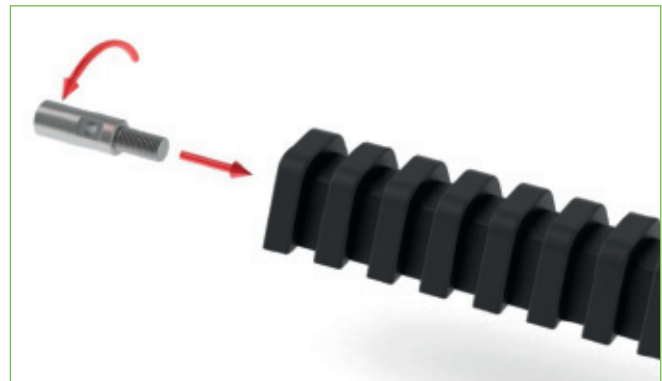
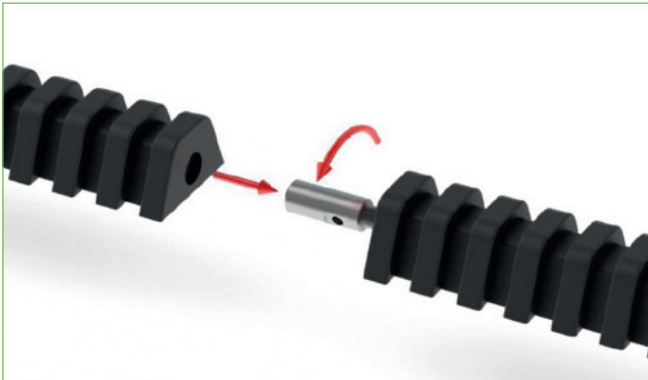
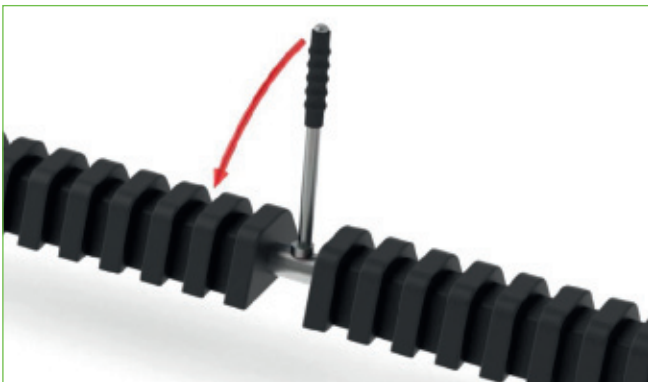

Figure 1.
Figure 2.
Figure 3.
- A correct connection is absolutely vital for the safe functioning of the Pipe Stop system. See Fig. 1, Fig. 2 and Fig. 3 how the Pipe Stop rail segments should be connected to form a complete Pipe Stop rail. After connecting the Pipe Stop rail segments, place a Pipe Stop block over the newly made connection. The block should fit over the gap comfortably. If additional force is needed to place the block on the rail, the connection is incorrect and the connection needs to be made again.